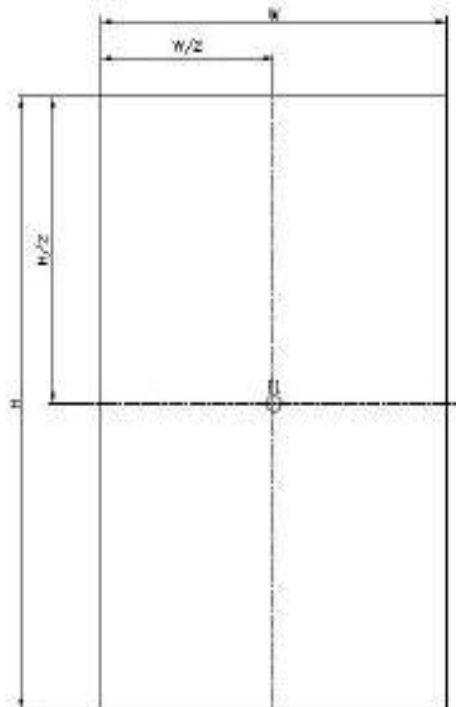

**Figure 1. Measurement Set Up**
1. Viewing angle is the angle at which the contrast ratio is greater than 10. The viewing angles are determined for the horizontal or 3, 9 o'clock direction and the vertical or 6, 12 o'clock direction with respect to the optical axis which is normal to the LCD surface (see FIGURE 1).
2. Contrast measurements shall be made at viewing angle of  $\theta = 0$  and at the center of the LCD surface. Luminance shall be measured with all pixels in the view field set first to white, then to the dark (black) state. (see FIGURE 1) Luminance Contrast Ratio (CR) is defined mathematically.